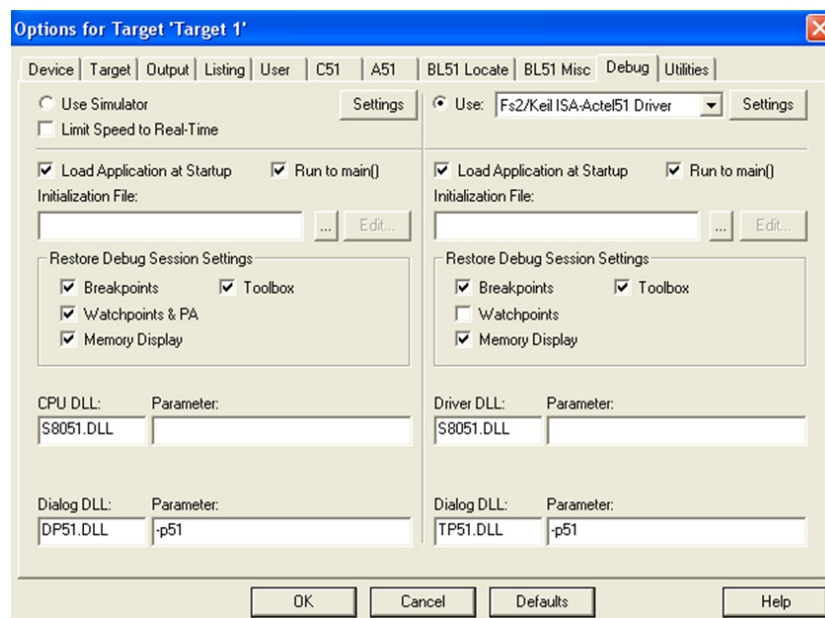

Figure 8 • Debug Settings
Step 12: Click the **Debug** tab and make sure the debug setting is as shown in Figure 8.